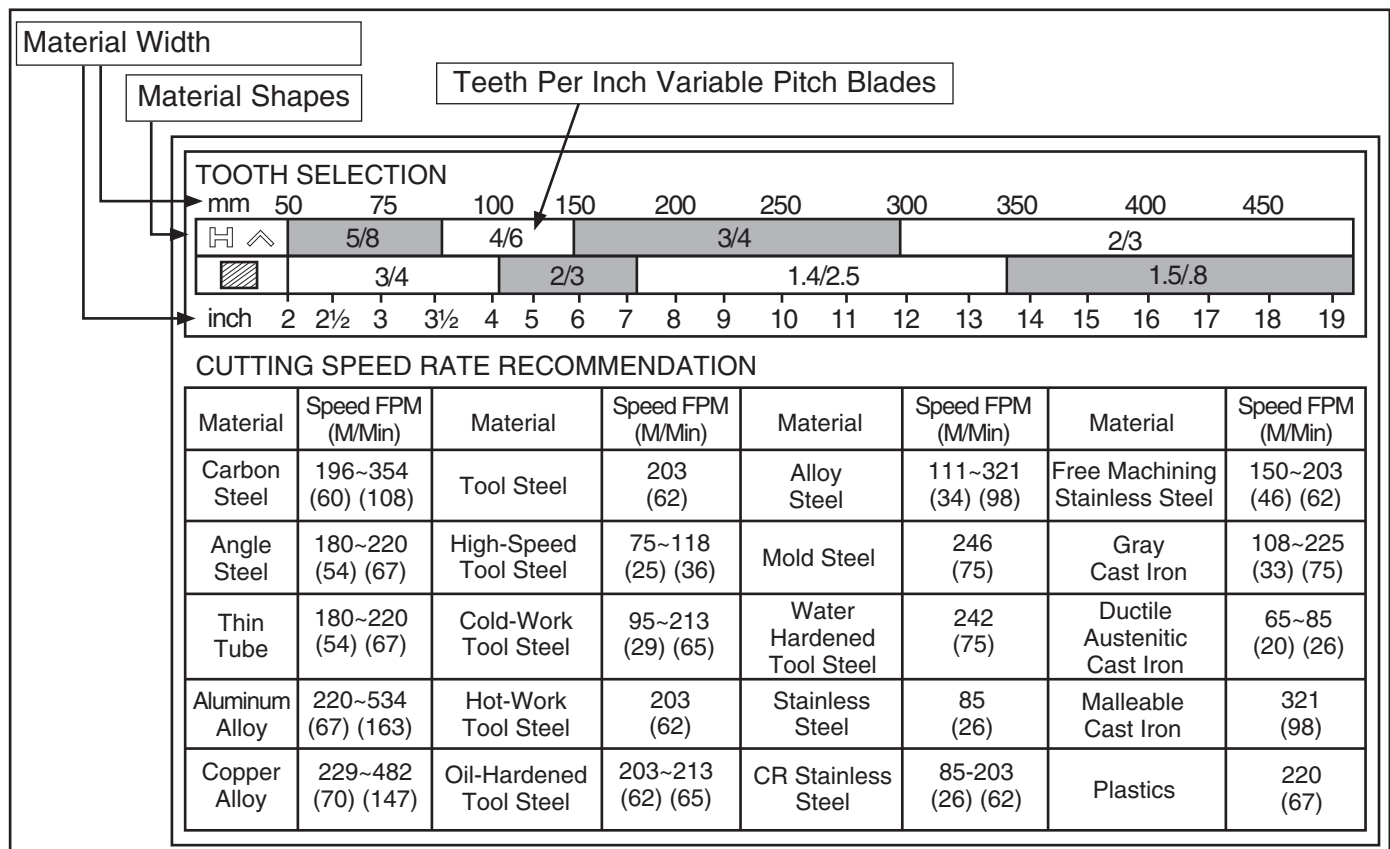

Figure 48. Blade selection and speed chart for metal cutting.
2. Refer to the "Material Width/Diameter" row of the blade selection chart in **Figure 48** and read across to find the workpiece thickness you need to cut.